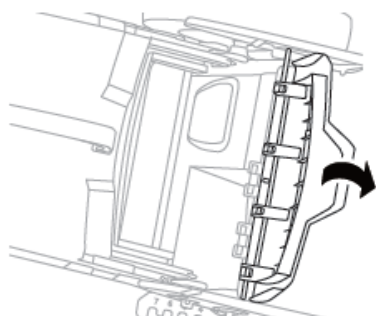

Fig. 3D
1. To fit: Raise the rear cover and hitch the grass catcher on rear of mower. (Fig.3D/ Fig. 3E)